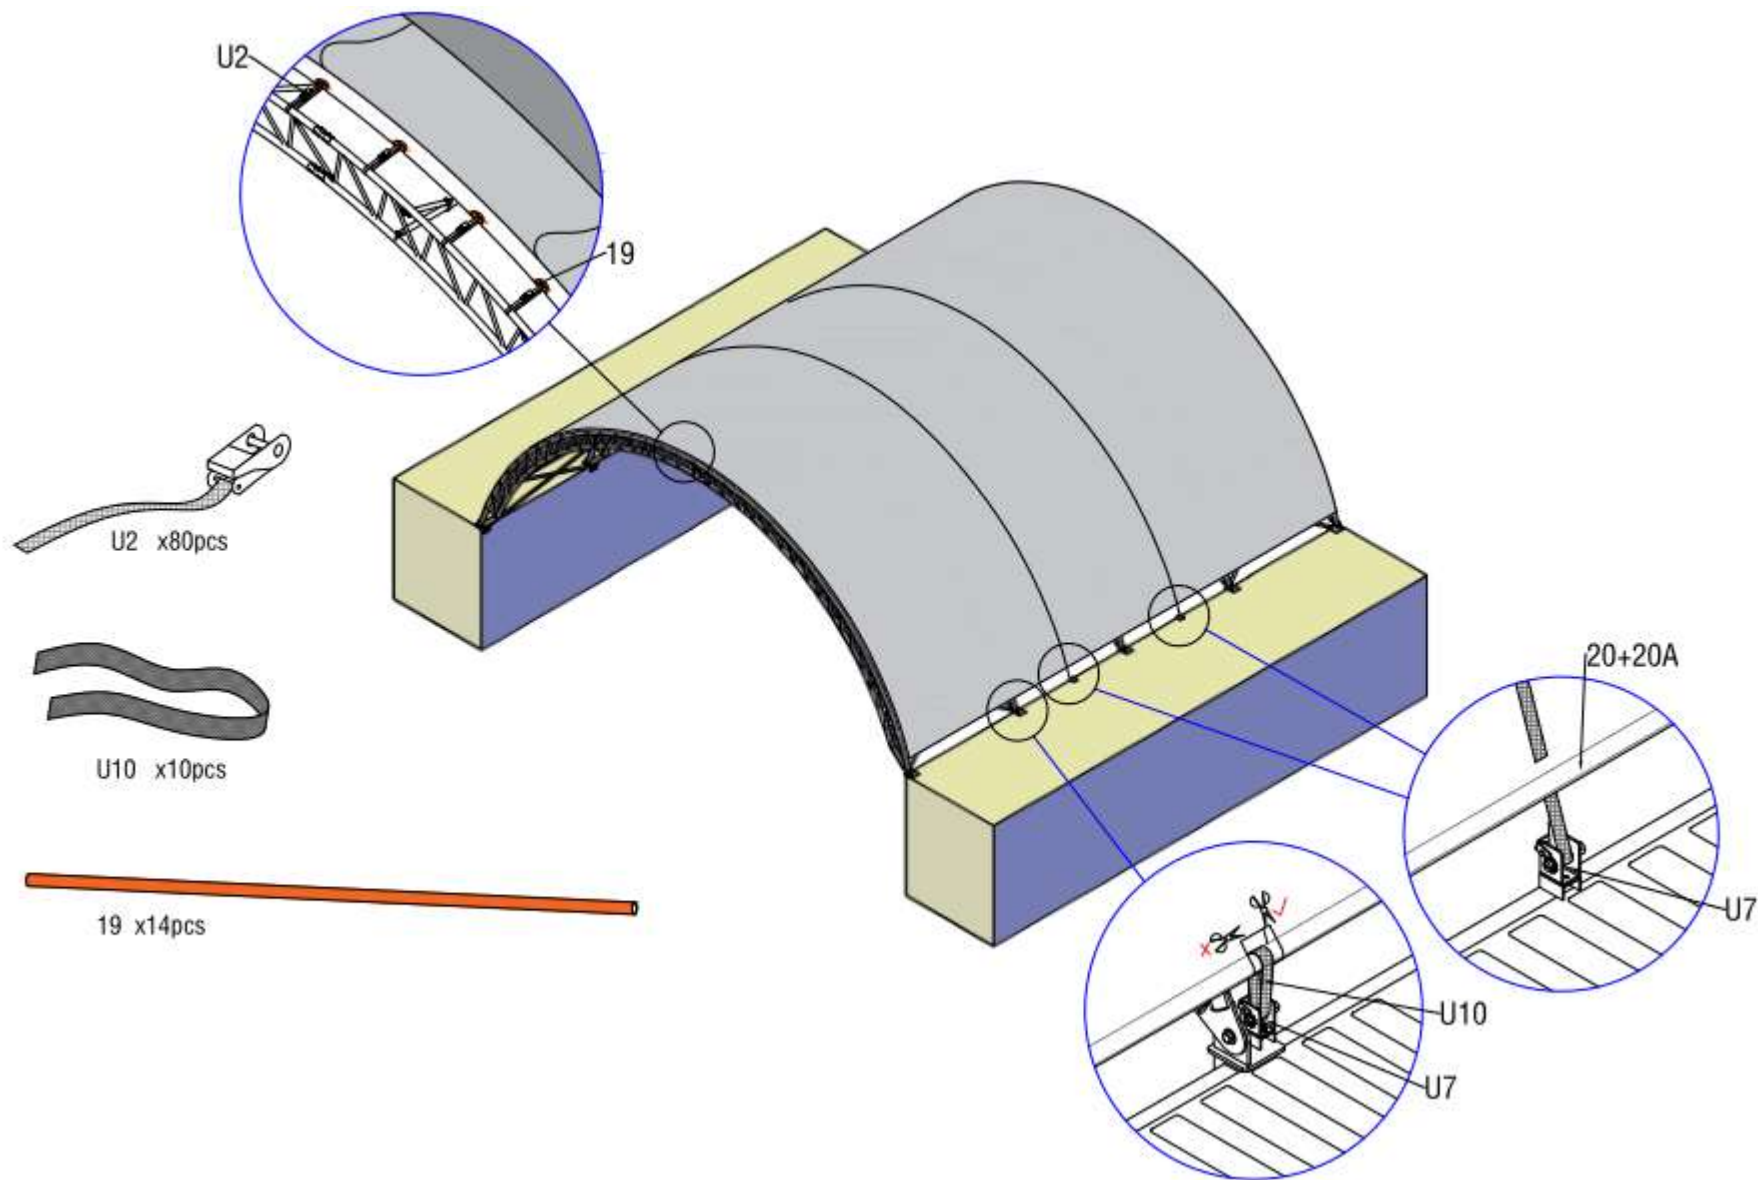

Figure 14
5. Insert the PPR Tube (Part no.19)into the end of roof cover by using small ratchet with straps(Part no.U2)to the arch as Figure 14 shows.Then cut the lower tension cover pocket according to the base plate location(**Please note the Cutting direction,the cutting should be Perpendicular to the cover pocket as the Figure 14 shows**). Insert the nylon straps (Part no.U10)into the winch ,drive the ratchet straps lashing winch forth and back and then roof cover is tightened.The roof cover tightening should be properly tightened and not too tight.